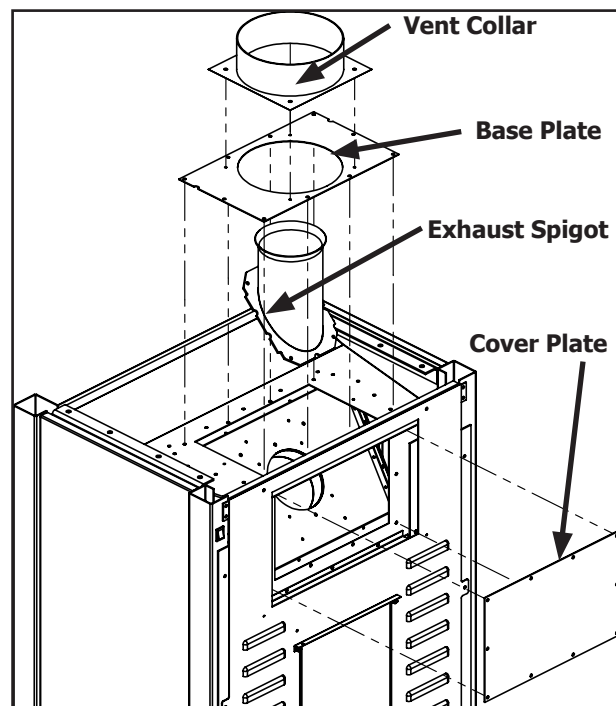

Figure 18. Vent Conversion - Step 2
Step 2: Next, remove the vent collar, base plate, cover plate and exhaust spigot (28 screws total) as shown in Figure 18.